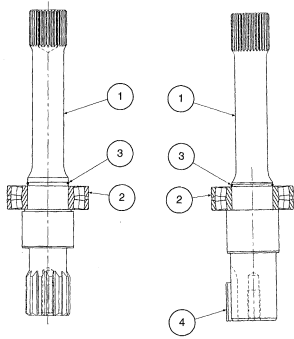

FIGURE 1
See Figure 1. Press the bearing (2) over the end of the shaft and seat against the shoulder. Support only the inner race of the bearing and press on the coupling end of the shaft. Caution: Do not use excessive force.
PARTS LIST FOR FIGURE 1